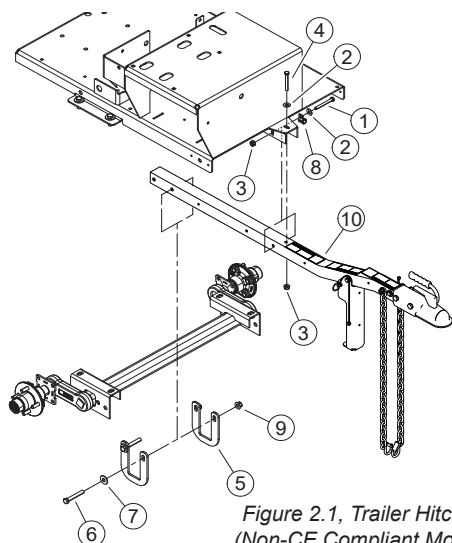

Figure 2.1, Trailer Hitch Assembly
1. First, attach the hitch pole assembly (10) to the hitch channel in the trailer deck bottom with two $3/8 \times 3 1/4$ " bolts (1), washers (2) and nylock nuts (3) and one $3/8 \times 3$ " bolt (4), washer (2) and nylock nut (3). (See Figure 2.1)
2. Next, place the two hitch plates (5) over the axle and attach to hitch pole using two $1/2 \times 3 1/4$ " bolts (6), two washers (7) and two nylock nuts (9) as shown in Figures 2.1 and 2.2.
3. Coated clamps (8) will be used for wiring harness mounting and routing purposes. Place wiring harness in clamps before securing the clamps in place on the bolts. (See Figures 2.1 and 2.3 for clamp locations and mounting details.)